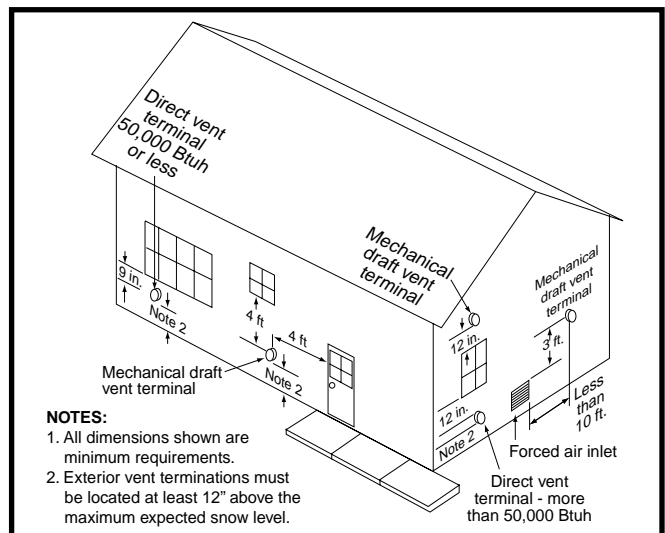

Figure 8. Vent Locations
- All minimum clearances must be maintained to protect building materials from degradation by flue gases. See (Figure 8).